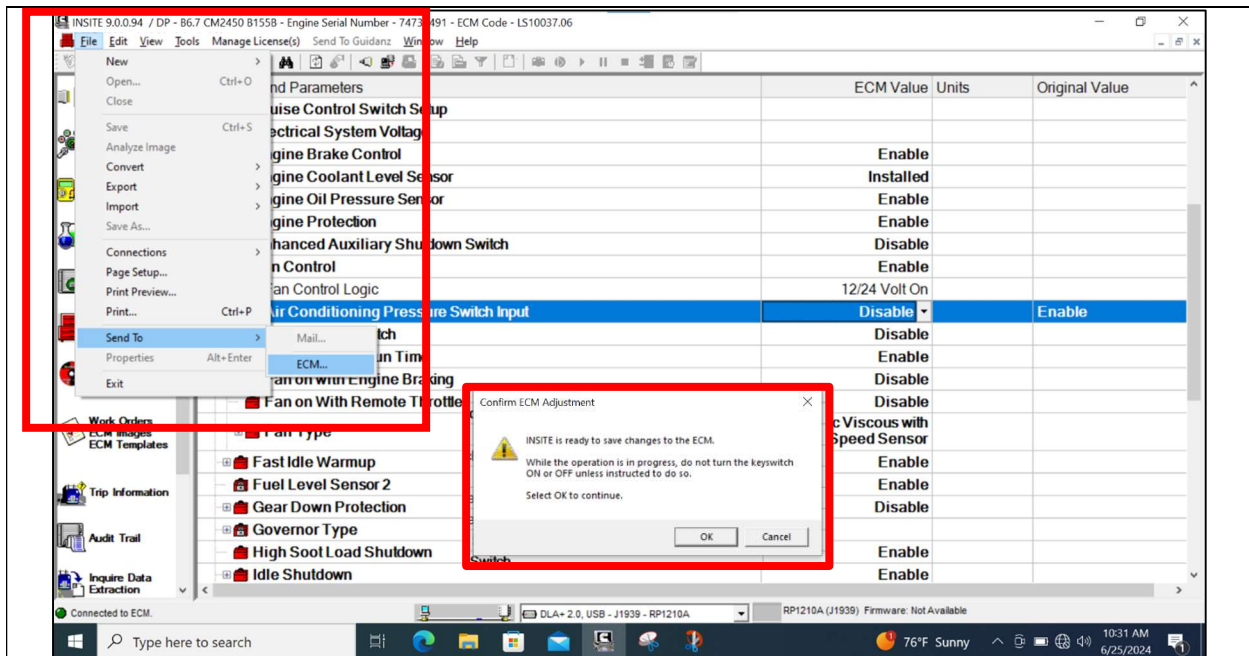

Figure 6
8. Select **FILE** and select **Send to ECM**. Select **OK** from the Confirm ECM Adjustment pop up. (See Figure 6.)